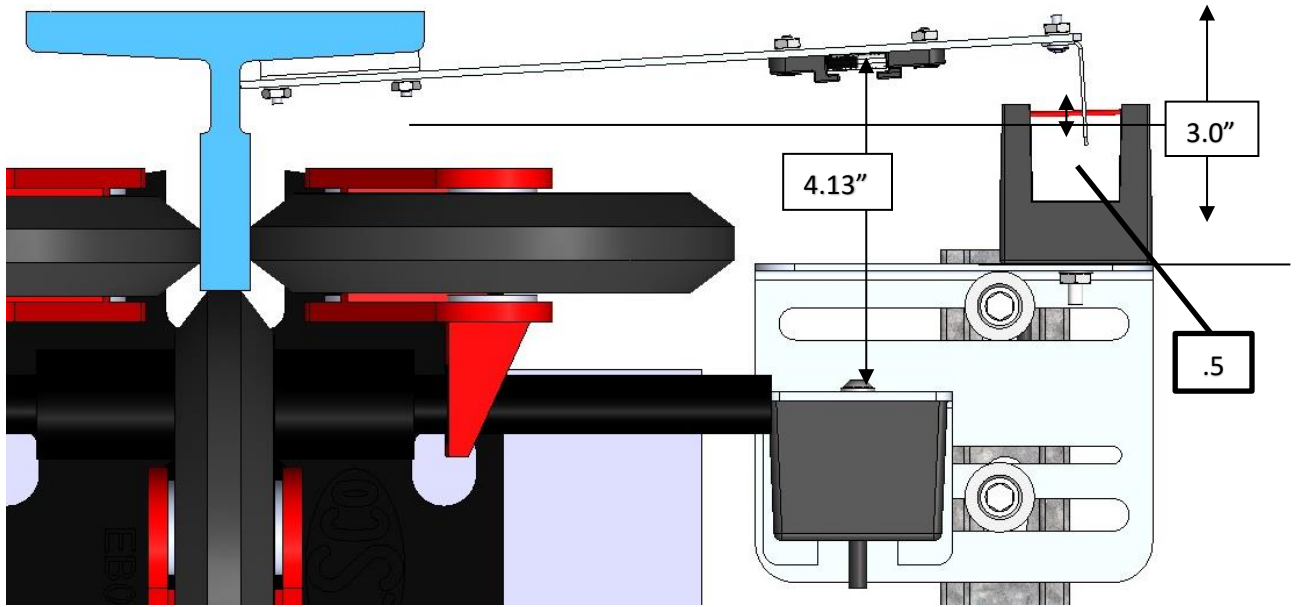

Figure 7: Sensor Array Assembly positioning
- Note: Exact positioning and lengths of Unistrut can be adjusted as needed as long as the Sensor Array is positioned as shown in figure 7.
- Temporarily affix a Tape Clip Assembly onto the guide rail to use as alignment for the Sensor Array Assembly. See figure 7.
- Set the end of the 24" Unistrut at 3.0" from the rear surface of the guide rail as shown in figure 7.
- Loosely bolt the Sensor Array Assembly onto the 24" Unistrut with the Door Zone Blade centered horizontally in the GLS Reader as shown in figure 7.
- Position the Sensor Array at the distances shown in figure 7 then tighten all bolts. Note: the Optical Sensor Mount bolts may be loosened if needed to adjust the position of the sensor.